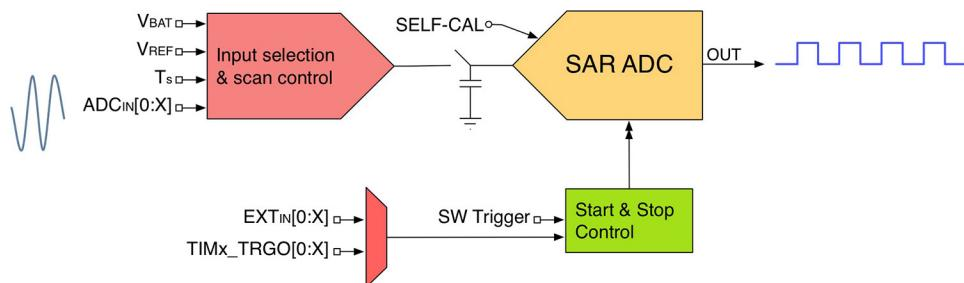
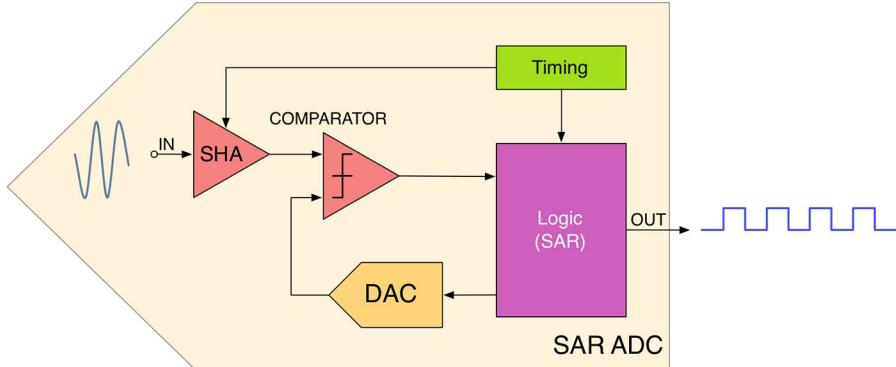
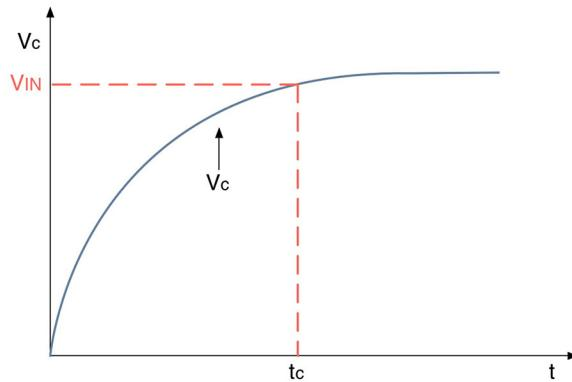

Figure 12.1: The simplified structure of an ADC
Figure 12.2: The internal structure of a SAR ADC
Figure 12.4: The effect of the ADC resistance on the analog signal source
Figure 12.1 schematizes the structure of the ADC². An *input selection and scan control unit* performs the selection of the input source to the ADC. Depending on the conversion mode (single, scan or continuous mode), this unit automatically switches among the input channels, so that everyone can be sampled periodically. The output from this unit feeds the ADC.
Figure 12.1 also shows another important part of the ADC: the *start and stop control* unit. Its role is to control the A/D conversion process, and it can be triggered by software or by a variable number of input sources. Moreover, it is internally connected to the TRGO line of some timers so that time-driven conversions can be automatically performed in DMA mode. We will analyze this important
²Figure 12.1 is a simplified representation of the ADC. Since the ADC implementation can differ a lot among the several STM32 families, here we are going to consider a simplified view that clearly describes how the ADC unit is designed.
Figure 12.2 shows the main blocks forming the SAR ADC unit shown in **Figure 12.1**. The input signal goes through the SHA unit. As you can see in **Figure 12.1**, a switch and a capacitor are in series with the ADC input. That part represents the *Sample-and-Hold* (SHA) unit shown in **Figure 12.2**, which is a feature available in all ADCs. This unit plays the important role to keep the input signal constant during the conversion cycle. Thanks to an internal timing unit, which is regulated by a configurable clock as we will see later, the SAR constantly connects/disconnects the input source by closing/opening the “switch” in **Figure 12.1**. To keep the voltage level of the input constant, the SHA is implemented with a network of capacitors: this ensure that source signal is kept at a certain level during the A/D conversion, which is a procedure that requires a given amount of time, depending on the conversion frequency chosen.
The charging of the internal capacitor network (that we indicate with C_{ADC}) is controlled by the switch in **Figure 12.1** having a resistance equal to R_{ADC} . With the addition of source resistance (that is, $R_{TOT} = R_{ADC} + R_{IN}$), the time required to fully charge the hold capacitor increases. **Figure 12.4** shows the analog signal source resistance effect. The effective charging of C_{ADC} is governed by R_{TOT} , so the charging time constant becomes $t_C = (R_{ADC} + R_{IN}) \times C_{ADC}$. If the sampling time is less than the time required to fully charge the C_{ADC} through R_{TOT} ($t_S < t_C$), the digital value converted by the ADC is less than the actual value. In general, it is necessary to wait a multiple of t_C to achieve a reasonable accuracy.
- **ClockPrescaler:** defines the speed of the clock (ADCCLK) for the analog circuitry part of ADC. In the previous paragraph we have seen that the ADC has an internal timing unit that controls the switching frequency of the input switch (see **Figure 12.2**). The ADCCLK establishes the speed of this timing unit, and it impacts on the number of samples per seconds, because it defines the amount of time used by each conversion cycle. This clock is generated from the peripheral clock divided by a programmable prescaler that allows the ADC to work at $f_{PCLK}/2, 4, 6$ or 8 (refer to the datasheets of the specific MCU for the maximum values of ADCCLK and its prescaler). In some STM32 MCUs the ADCCLK can also be derived from the HSI oscillator. The value of this field affects the ADCCLK speed of all ADCs implemented in the MCU.